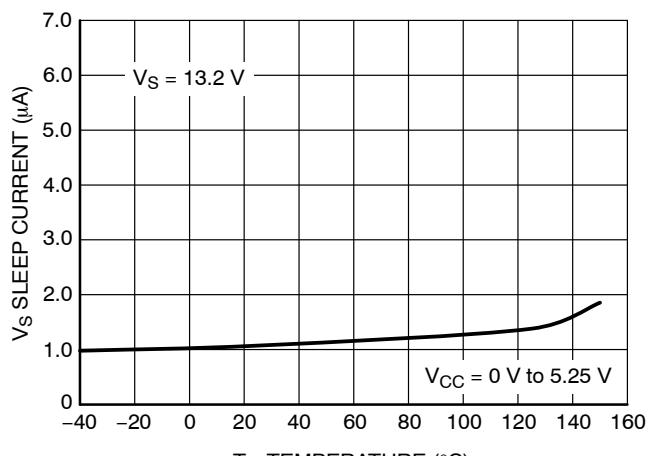

Figure 6. V_S Sleep Supply Current vs. Temperature
5. For temperatures above 85°C, refer to Figure 6.
5. For temperatures above 85°C , refer to Figure 6.